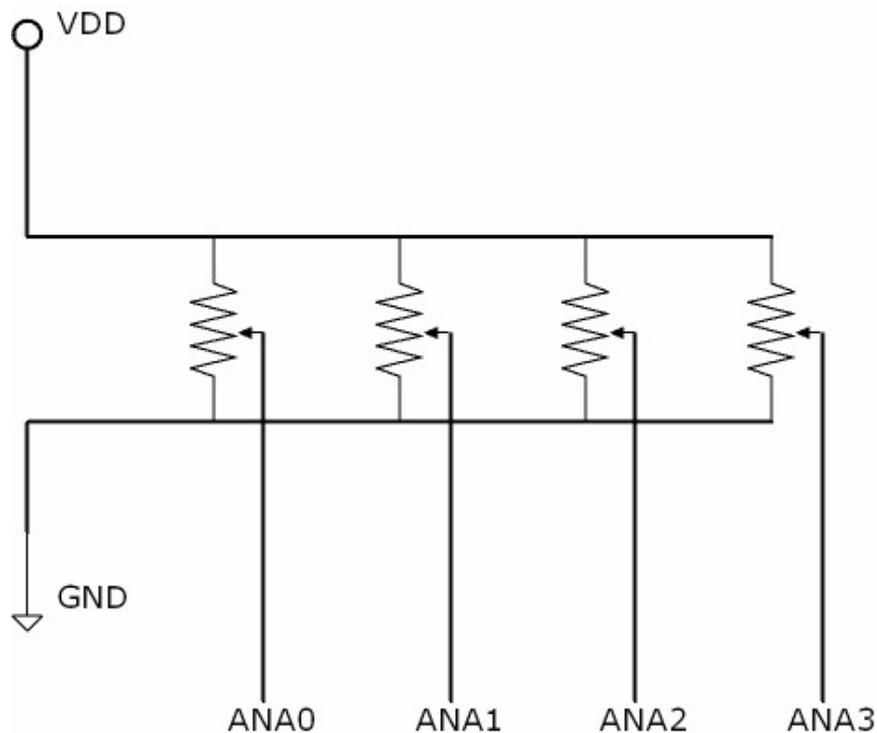

Figure 6. Potentiometers as Analog Input Sources
1. Connect the potentiometers, as indicated in Figure 6, to the Z51F3220 Development Board.